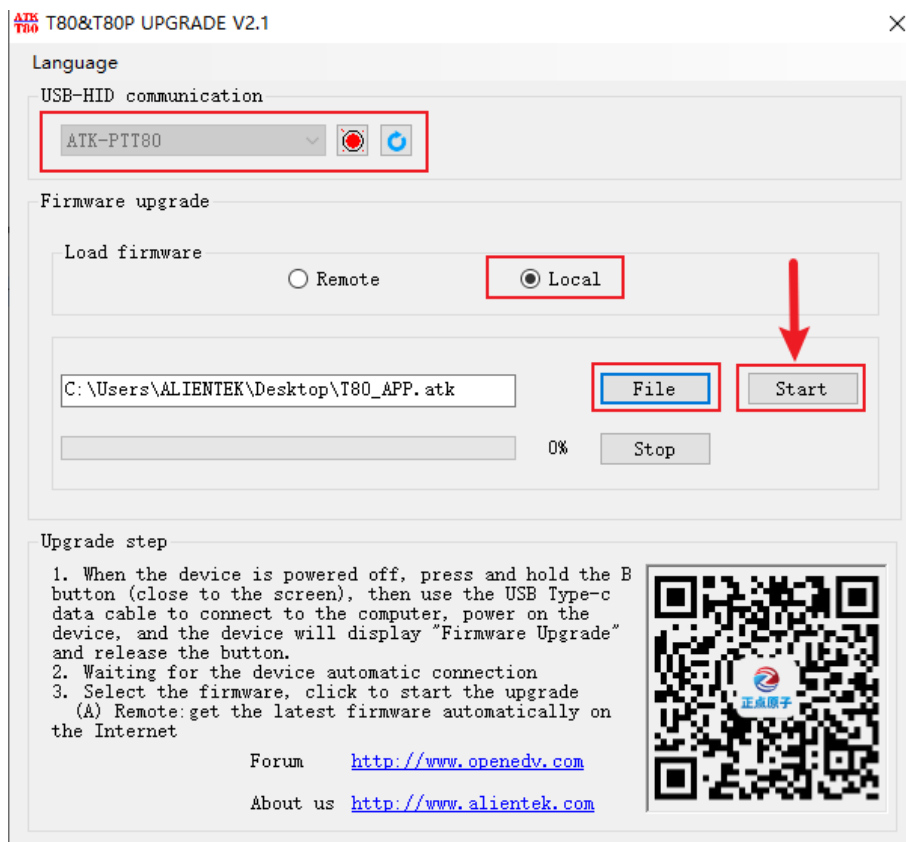

Figure 10-3 Firmware upgrade
**Step 4:** Select the local firmware, and load the T80\_APP.atk file, click to start the upgrade and wait for the upgrade to complete. The operation is shown in Figure 10-3 below.